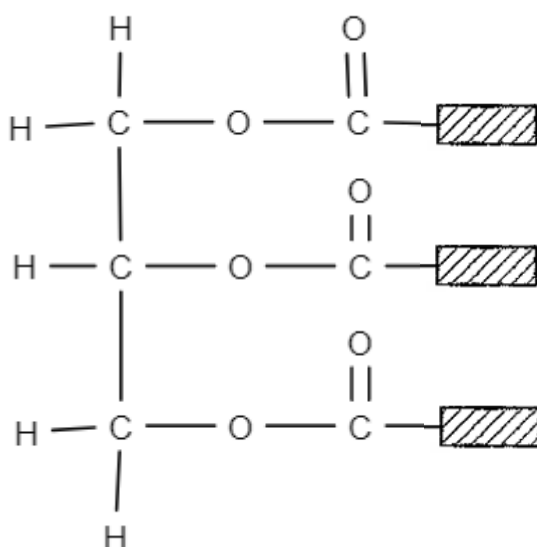

Fig. 8.1
Vegetable oils such as avocado oil, palm oil and soybean oil contain a mixture of triesters. Triesters are compounds formed from an esterification reaction between glycerol and three fatty acids. The three fatty acids may be the same or different depending on the type of oil. Fig. 8.1 below shows the general structure of the triesters with the long hydrocarbon chains of the fatty acids represented by .
- (b) From Fig. 8.1, deduce the full structural formula of glycerol.